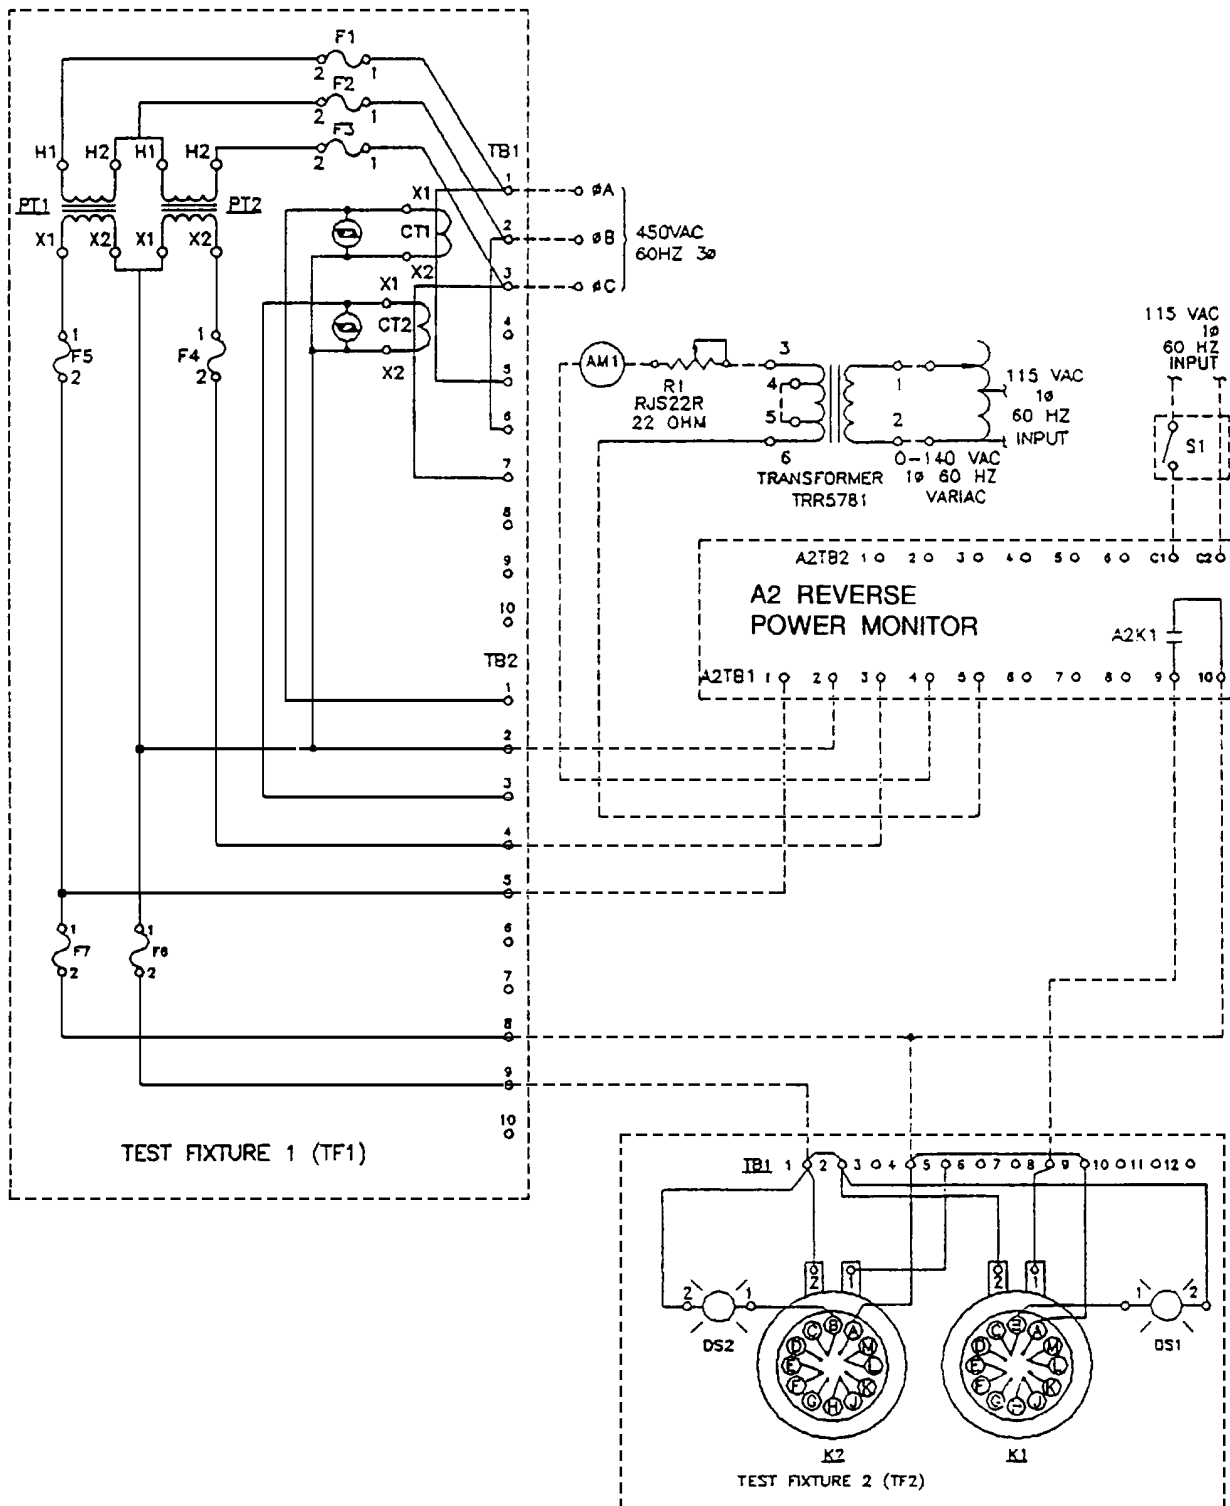

Figure 5-6. Test Fixture - Reverse Power Monitor
1. Test Fixture 1 (TF1) as shown on figure 5-6.
2. Test Fixture 2 (TF2) as shown on figure 5-6, consisting of the following components:
- b. Configure Test Fixtures 1 and 2 as shown in figure 5-6.
- a. Connect Reverse Power Monitor A2 unit to be tested as shown on figure 5-6.
- (1) Verify connection of A2TB1-1 to Test Fixture 1 (TF1) TB2-5.
- (2) Verify connection of A2TB1-2 to TF1 TB2-2.
- (3) Verify connection of A2TB1-3 to TF1 TB2-4.
- (4) Verify connection of A2TB1-9 to Test Fixture 2 (TF2) TB1-8.
- (5) Verify connection of A2TB1-10 to TF2 TB1-5.
- (6) Verify connection of TF2 TB1-5 to TF1 TB1-8.
- (7) Verify connection of TF2 TB-1 to TF1 TB1-9:
- (8) Verify connection of Variac supply of 115 VAC to Variac T1-1.
- (9) Verify connection of Variac return of 115 VAC to Variac T1-2
- (10) Verify connection of T1/3 to R1.
- (11) Verify connection of T1/6 to R1 centertap.
- (12) Verify connection of R1 centertap through AM1 to A2TB1-4.
- (13) Verify connection of T1/6 to A2TB1-5.
- (14) Verify connection of 115 VAC supply to A2TB2-C1.
- (15) Verify connection of 115 VAC return to A2TB1-C2.
- b. Connect 450 VAC, 3 Ph, 60 Hz Power Source to Test Fixture as shown on figure 5-6:
- (1) Verify connection of PH A to TF1 TB1-1.
- (2) Verify connection of PH B to TF1 TB1-2.
- (3) Verify connection of PH C to TF1 TB1-3.
- (1) Verify connection of PH A to TF TB1-5.
- (2) Verify connection of PH B to TF TB1-6.
- (3) Verify connection of PH C to TF TB1-7.
- d. Configure Load Bank resistive elements as shown on figure 5-6.
- (1) Time Delay Setting at 5 seconds.
- (2) Power Level Setting at 100 ma.